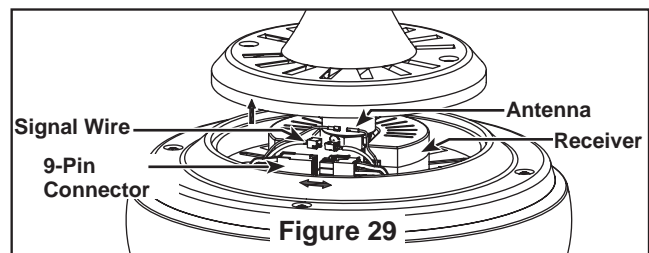

Figure 29
2. Unplug antenna, signal wire and 9-PIN connector than replace new receiver. (Figure 29)